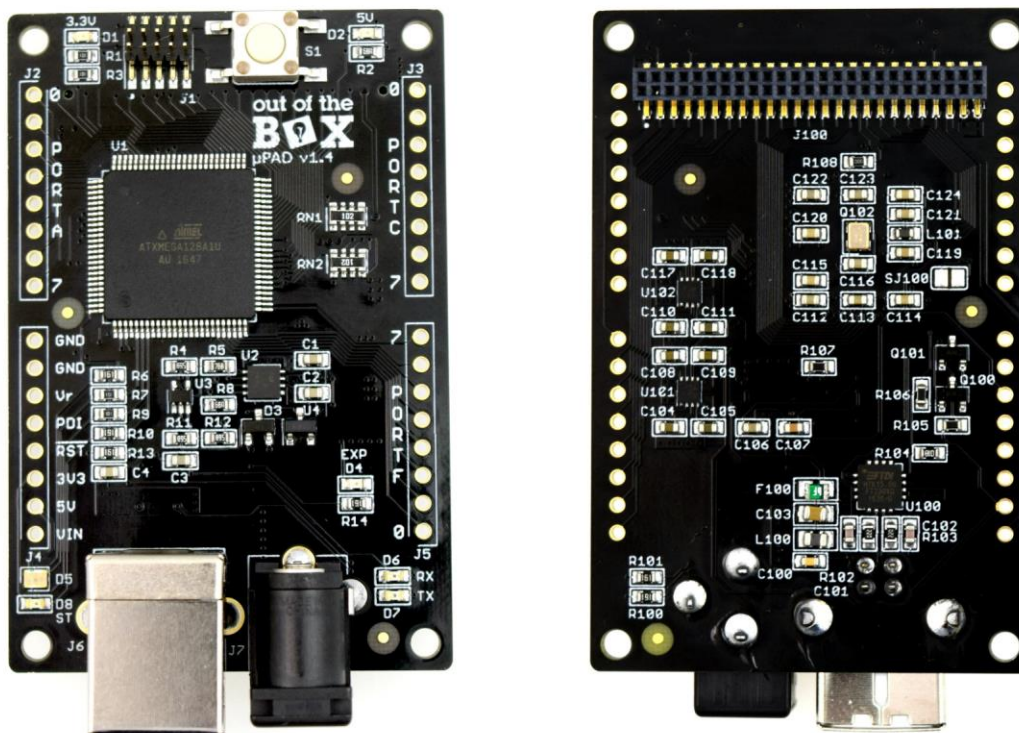

Figure 1: μPAD Top and Bottom
2. Use caution when connecting and disconnecting the programmer from J1 pictured in Figure 1. This connector can be sheared off the PCB if handled roughly.
There are three inlets for external power to the μ PAD. The board can be powered via the barrel jack J7 (pictured in Figure 1), the Backpack VIN connection, or the Base connector's VIN signal. Therefore, the μ PAD can be self-powered or receive power from an accessory Backpack or Base.
The μPAD is designed to be powered via USB and external sources. As for the external sources there are 3 VIN connections present on the board. The first is J7, the barrel jack pictured in Figure 1. The jack is wired center positive, and it accepts 2.1mm ID by 5.5mm OD plugs. The second VIN connection of the μPAD is found on J4 pictured in Figure 1. This connection allows Backpacks to power the μPAD. The last VIN connection is on the Base connector. This connection allows μPAD Bases to power the μPAD. Reference the μPAD schematic for the pinout of the Base connector.